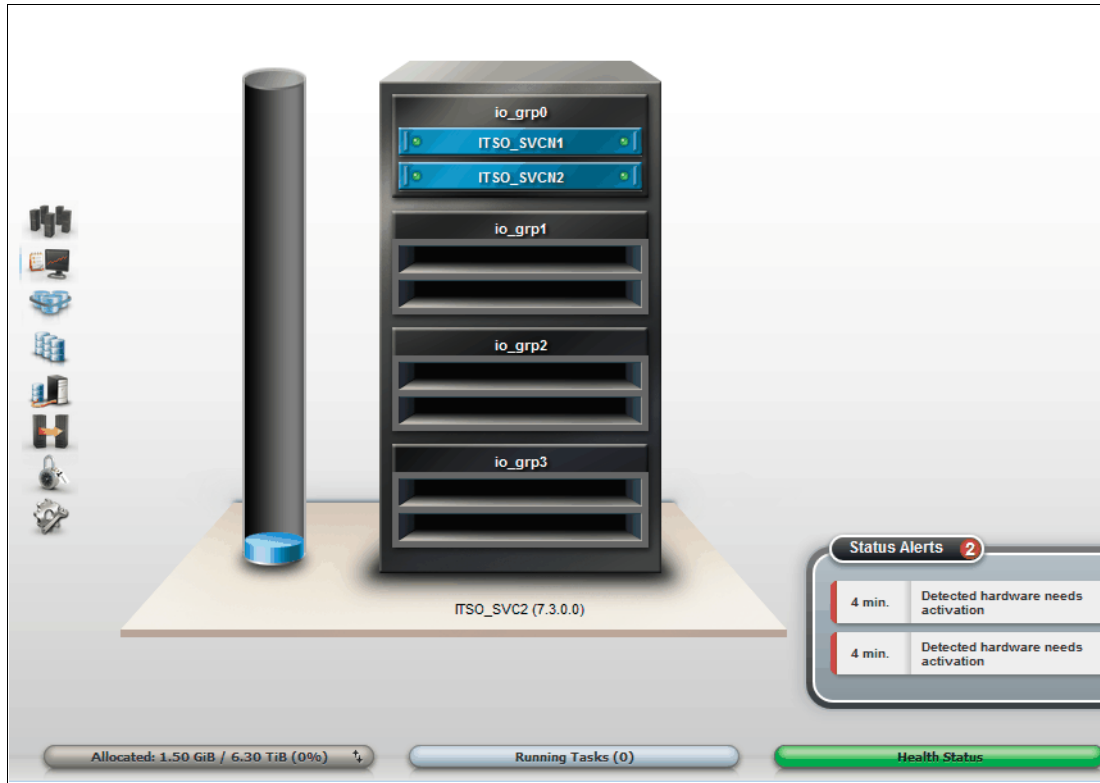

Figure 6-30 Detected hardware needs activation
**Note:** You cannot enter the compression license at this stage. If you have ordered the 2145-DH8 with compression cards, they will need to be hardware activated before you can enter the license for compression. This is described as the last part of the initial configuration as depicted in Figure 6-30 on page 135 and its related text.
If compression cards, or any other adapter cards, are installed in the nodes, after the completion of the initial setup you will briefly see a Status Alert in the lower right corner, as seen in Figure 6-30, which states that the detected hardware needs activation.